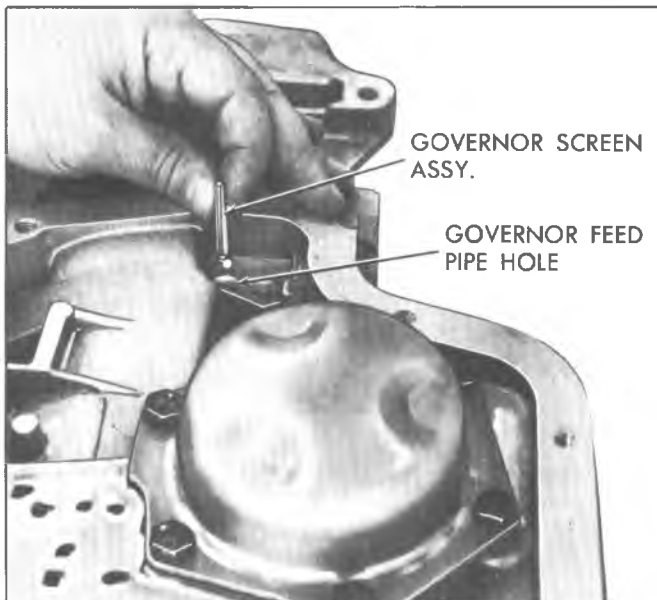

Fig. 150T--Installing Governor Screen Assembly
2. Install governor screen assembly, open end first, into governor feed pipe hole in case (hole nearest the center of the transmission) (Fig. 150T).
NOTE: If transmission is in vehicle, before installing the control valve assembly and governor pipes as outlined in Step 3 below, insert the governor screen, closed end first, into governor feed pipe. (This pipe locates in the governor feed pipe hole in the case nearest the center of the transmission). SEE figure 150T.